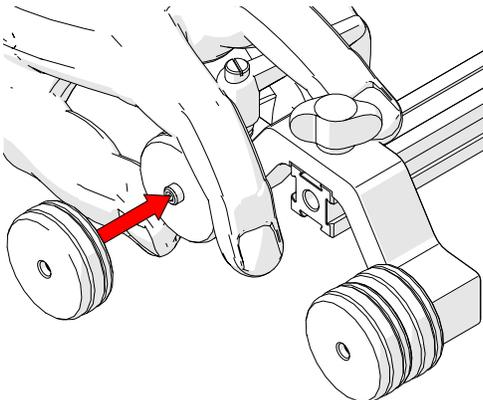

Fig. 40 - Screw on additional magnetic wheel
3. By hand, grip the wheel already attached to the wheel block. Overcome the magnetic resistance to screw the additional wheel to the axle of the wheel block (Fig. 40).